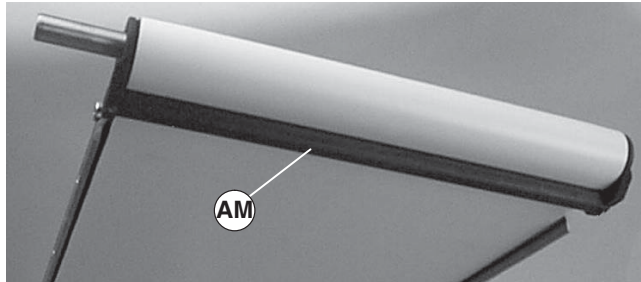

Figure 20
1. If installed, remove and retain bottom wiper(s) (Figure 20, item AM).
2. If installed, remove and retain bottom wiper(s) (Figure 20, item AM).
3. On a flat belt conveyor, install bottom wiper(s) (Figure 20, item AM). Center set screws in frame and tighten to 33 in-lb (3.7 Nm).
5. If removed, install bottom wiper(s) (Figure 20, item W). Center set screws in frame and tighten to 33 in-lb (3.7 Nm).
3. If removed, install bottom wiper(s) (Figure 20, item W). Center set screws in frame and tighten to 33 in-lb (3.7 Nm).